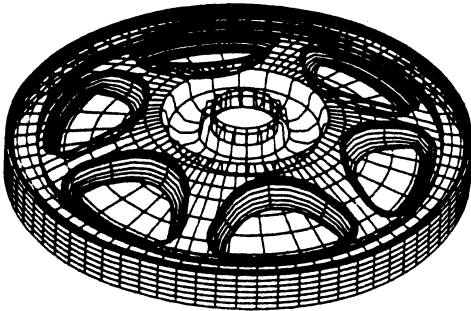

Figure 1.11 Complicated sculptured surfaces
- Ability to model very complicated sculptured shapes (Figure 1.11)